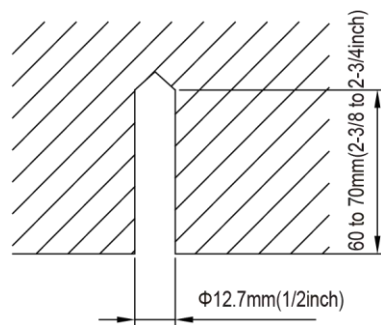

Figure 3-1-41
- (2) Install the bolts to the ceiling at a place strong enough to hang the unit. Mark the bolt positions from the installation template. With a concrete drill, drill for 12.7mm (1/2inch) diameter holes (Figure 3-1-41).